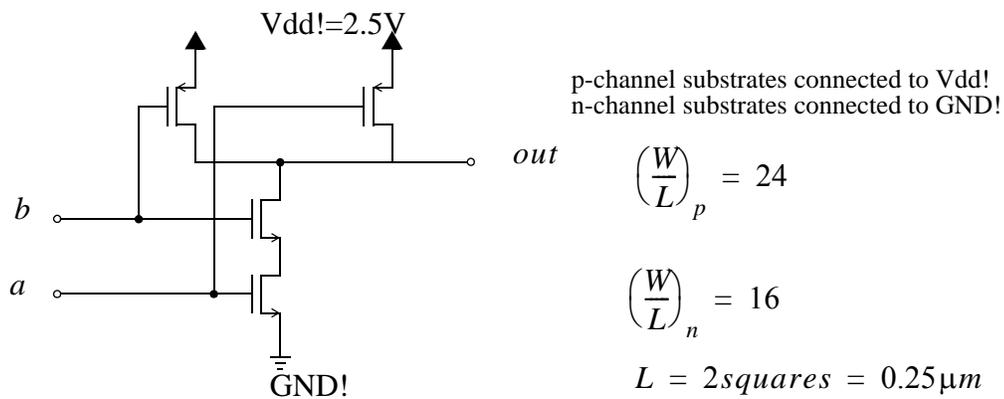
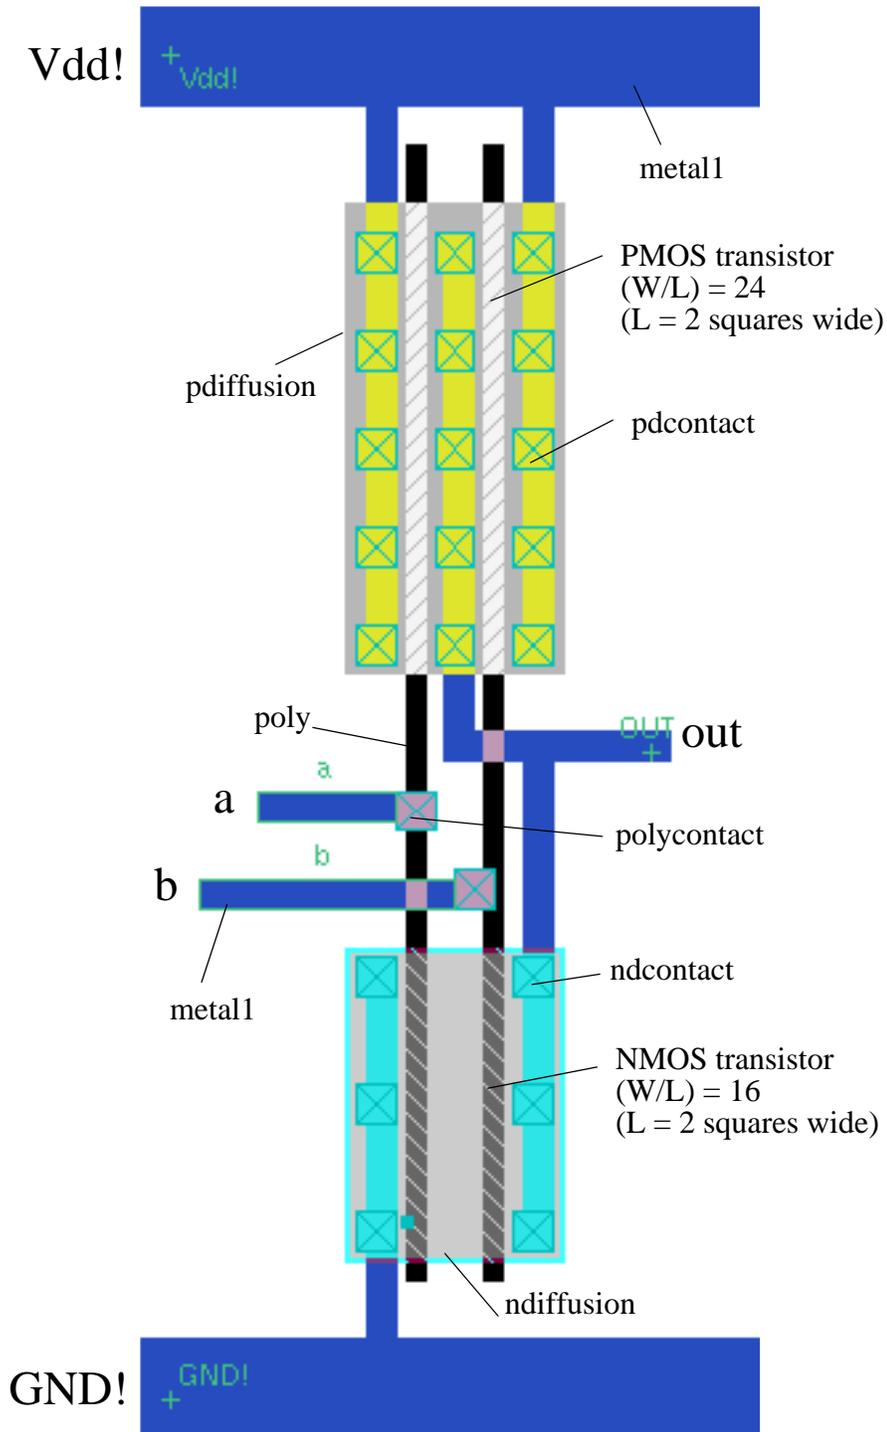

Figure 1: Schematic of 2-input NAND gate
Figure 2: Layout of 2-input NAND gate.
- P2) Using coloured markers (or pencils), draw a layout for a two-input NAND gate shown in Figure 1 ignoring the actual design-rule values and not using metal2. (Metal2 is often reserved for longer routing in which case it is not used in circuit cells.) Verify your stick diagram using the layout shown in Figure 2.
You must now create the layout for a 2-input NAND gate. Start the layout in a new Magic file *lab2.max* and use as your guide either your own layout stick diagram from the Preparation or the layout provided in Figure 2.
- layout of the 2-input NAND gate shown in Figure 1 (p. 1) of the lab handout
- schematic of the 2-input NAND gate (Figure 1) with parasitic capacitors in SUE
- In Figure 2 (p.2), please ignore the label "L = 2 squares wide", you don't need this information.
- Drawing the 2-input NAND gate layout in Figure 2, you don't have to match the number of contacts in transistors; only dimensions matters.
- Although 0.18um CMOS technology is used in the MAX tutorial, you have to use 0.25um technology in this lab. This is indicated by the transistor length of the NAND gate in Figure 1. To start MAX with 0.25um technology, simply type 'max'.